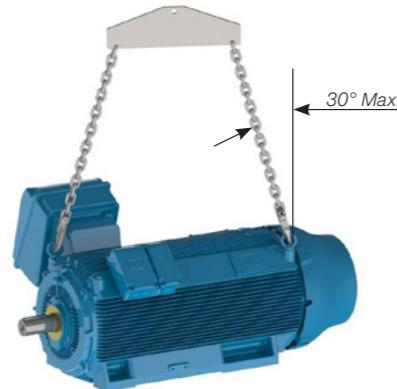

Figure 4.5 – Maximum resultant angle for horizontal HGF motors
- For HGF motors, as shown in Figure 4.5, the maximum resulting angle should not exceed 30° in relation to the vertical axis.